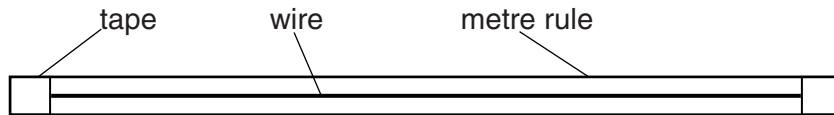

Fig. 1.2
- 3 The wire should be attached to the metre rule as shown in Fig. 1.2. The wire should be firmly taped and as free from kinks as possible.